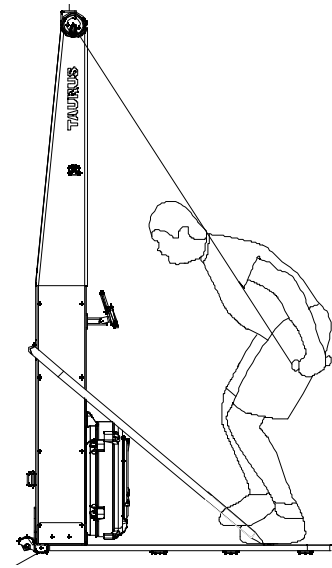

Fig. 23
4. Tighten your abdominal muscles and bend your knees. (Fig. 23).
5. Extend your arms along your hips and keep your knees bent. (Fig. 23).